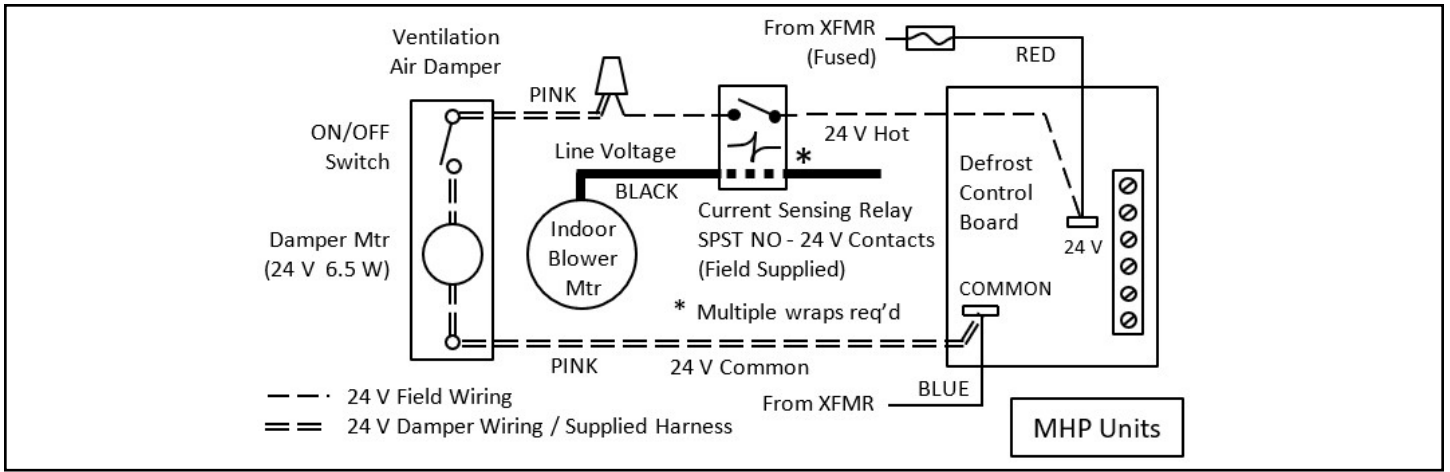
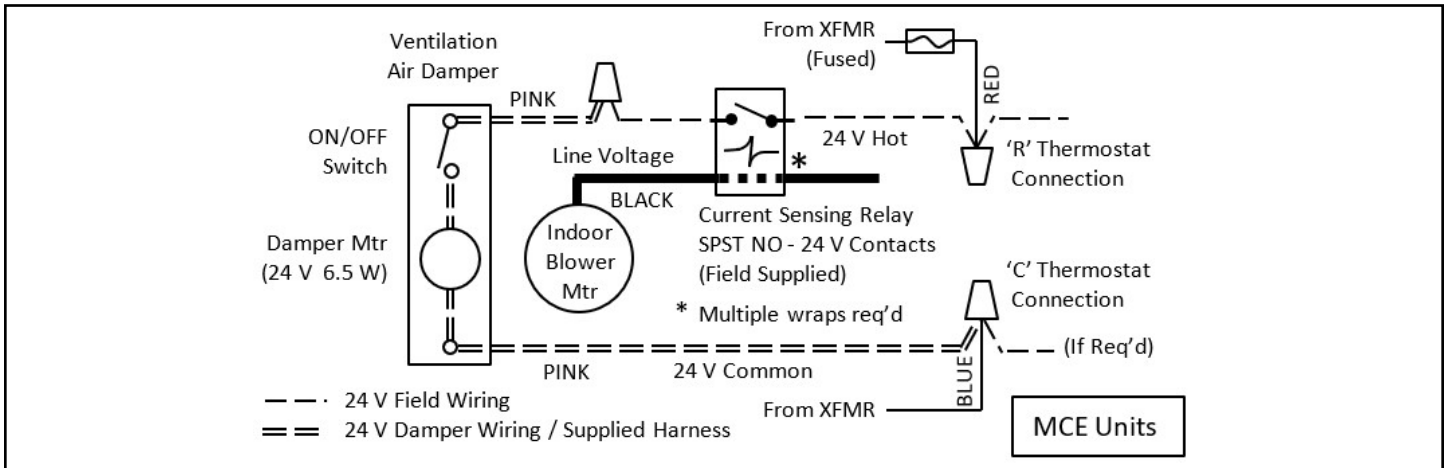

Figure 5.
Figure 6.
9. Install field-supplied current sensing relay and associated wiring. Depending on the relay applied, the blower wire may need to be wrapped multiple times through the relay's sensing opening. Secure relay and wiring to ensure they will not interfere with indoor blower operation (see Figure 5 or Figure 6)